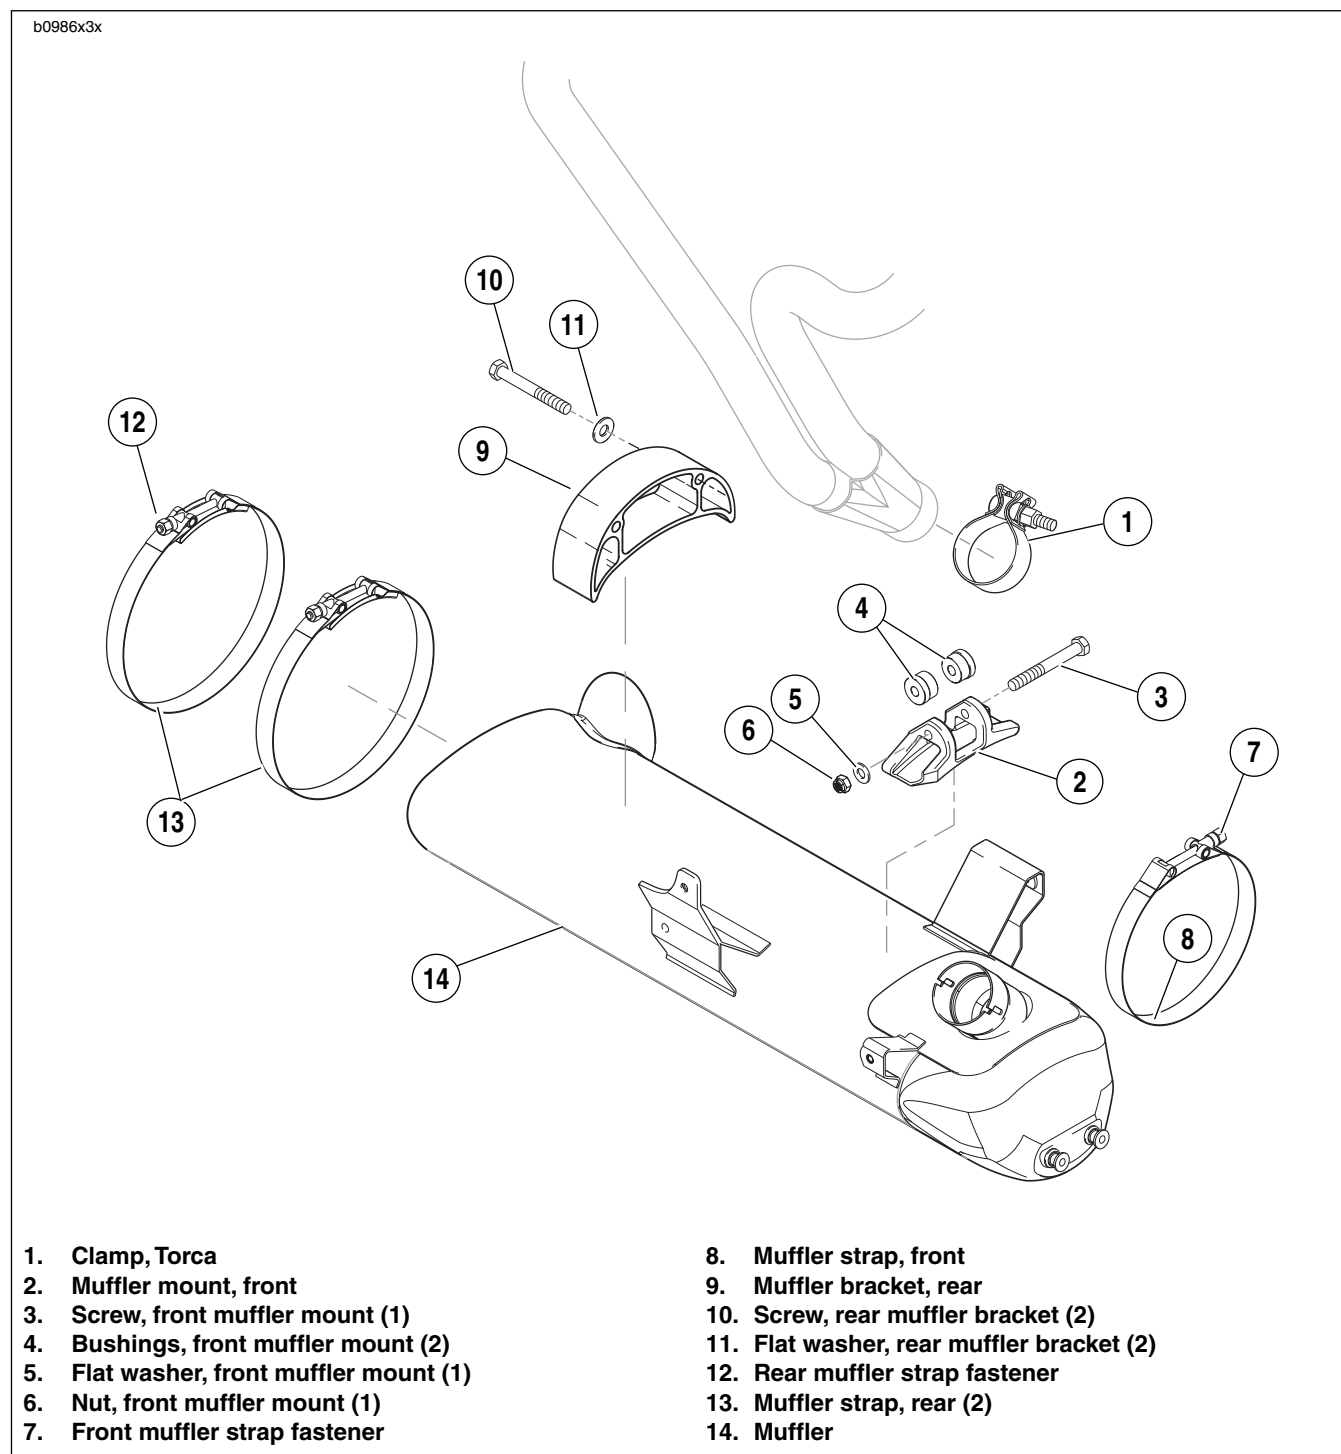

Figure 3-18. Muffler and Mounting System
12. Remove complete chin fairing, (7) bolts.
15. See Figure 3-18. Remove muffler:
- a. Remove front muffler strap fastener (7). Front strap will not be removed.
- b. Alternately loosen rear strap fasteners (12) and remove rear muffler straps.